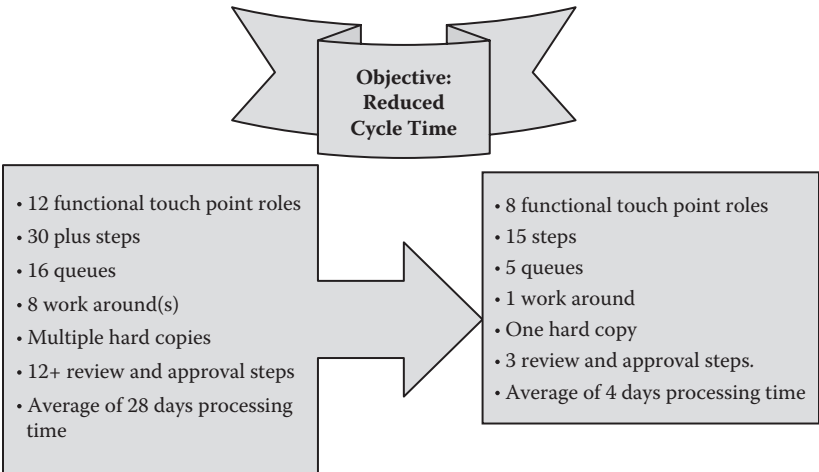

Figure 7.1 Summary results.
- o Figure 7.1 Summary Results